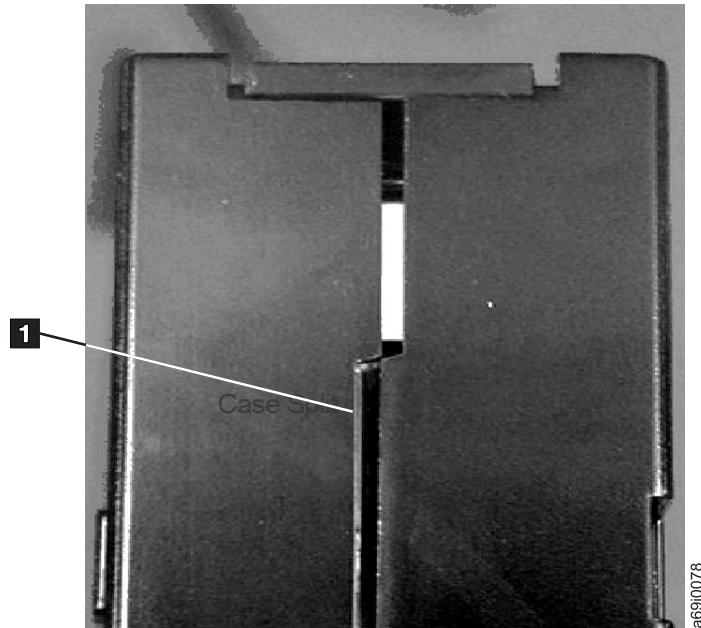
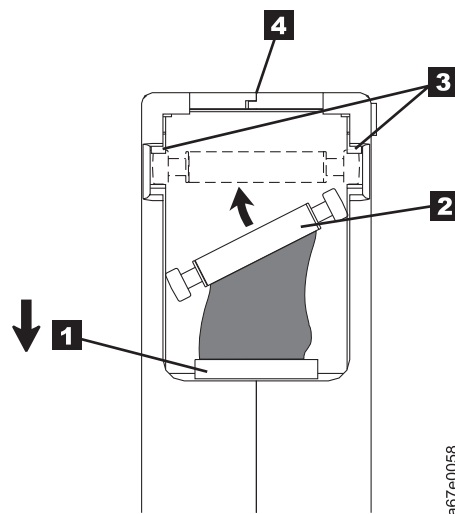

Figure 6-7. Checking for gaps in the seams of a cartridge
Figure 6-9. Placing the dislodged leader pin into the correct position. The cartridge door is open to show the leader pin.
- Inspect the rear of the cartridge (the part that loads first into the tape load compartment) and ensure that there are no gaps in the seam of the cartridge case (see **1** in Figure 6-7 on page 6-11 and **4** in Figure 6-9 on page 6-13). If there are gaps in the seam (see Figure 6-7 on page 6-11), the leader pin might be dislodged. Go to “Repositioning or reattaching a leader pin” on page 6-12.
Split cartridge case. See Figure 6-7.
1. Slide open the cartridge door (**1** in Figure 6-9) and locate the leader pin **2** (you might need to shake the cartridge gently to roll the pin toward the door).